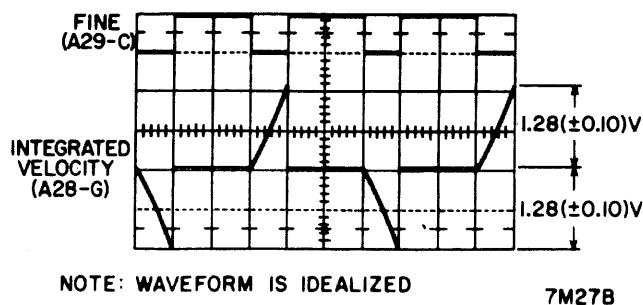

Figure 3-14. Fine Enable Switching Level Waveform
5. Check that Fine switches to "1" when velocity signal is 1.28 (± 0.10) volts. See Figure 3-14.